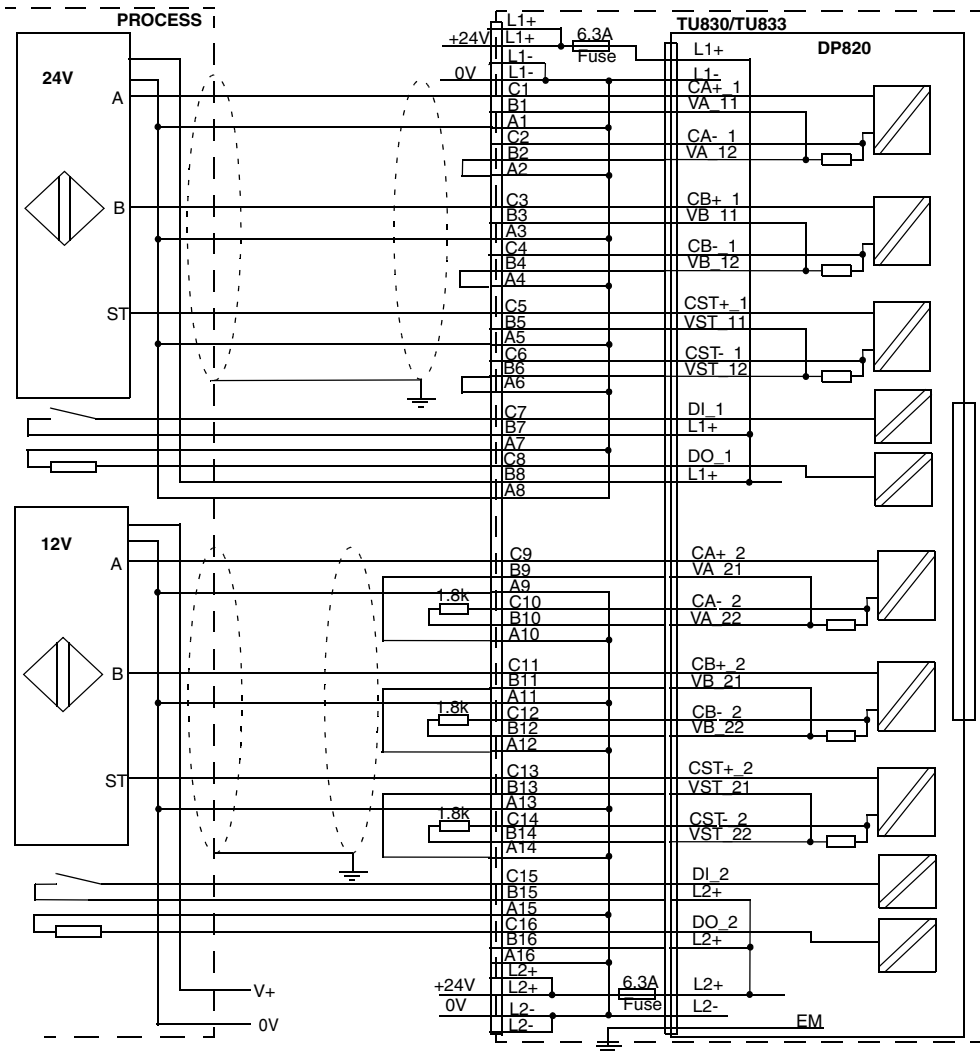

Figure 203. DP820 with TU830 MTU Process Connections and Transducer Connections
- (1) Load 20 mA at 5 V, 8 mA at 2.5 V
- (2) With TU830 external resistor 1.8 k Ω , see Figure 203.
Figure 203 shows the process connections for DP820 when installed on a TU830 MTU, and with +24 V transducer connected to channel 1 and +12 V transducer to channel 2.